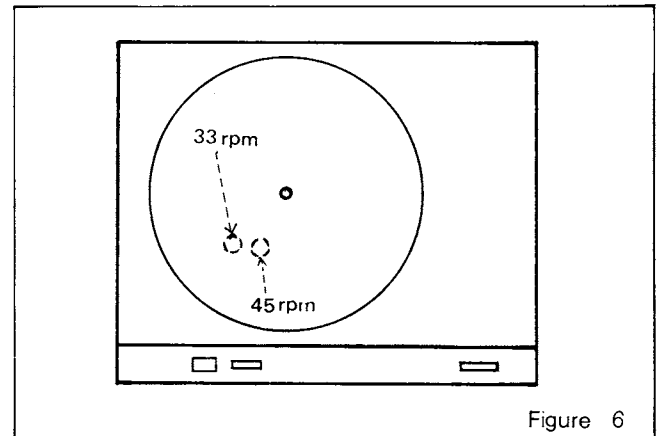

Figure 6
- (1) Place the variable resistor knob at the center ( $150^\circ$ ) of rotating possible angle ( $300^\circ$ ).
- (2) Set the speed selector knob to 33 and rotate the semi-fixed variable resistor through the hole described in Fig. 6 so that the strobe index appears stationary.
- (3) Make the same arrangement for 45 rpm.